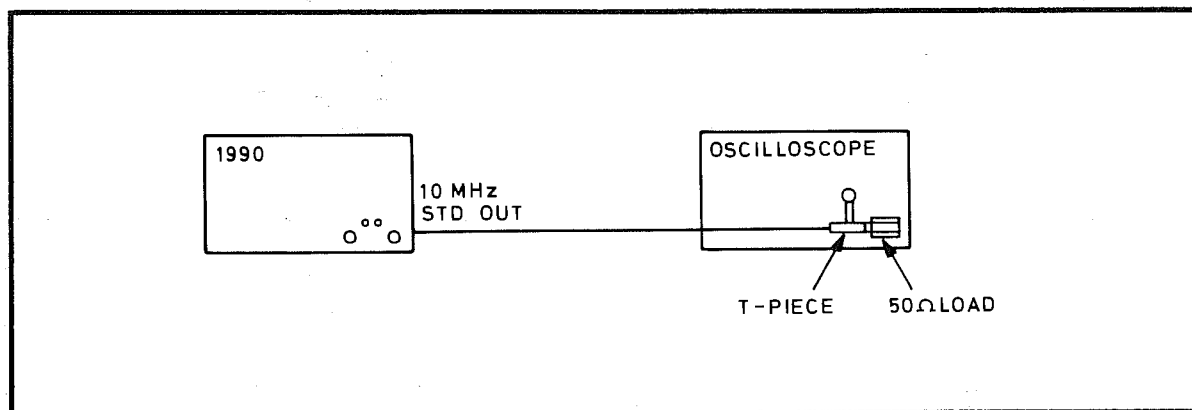

Fig 7.27 Connections for 10 MHz Standard Output Level PVP
- 70 (1) Connect the test equipment as shown in Fig 7.27.
- (2) Verify that the peak-to-peak amplitude of the displayed waveform is $1.0\text{ V} \pm 0.4\text{ V}$. Verify that the mark/space ratio is between 30:70 and 70:30.
- (3) Disconnect the test equipment.